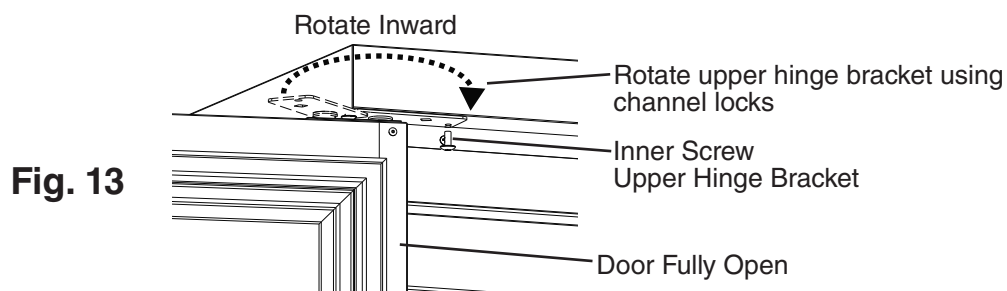

Fig. 13
- 14) Rotate the upper hinge bracket inward into position using channel locks. See Fig. 13. **NOTICE! Be careful not to damage the finish.** Install the inner screw into the upper hinge bracket.